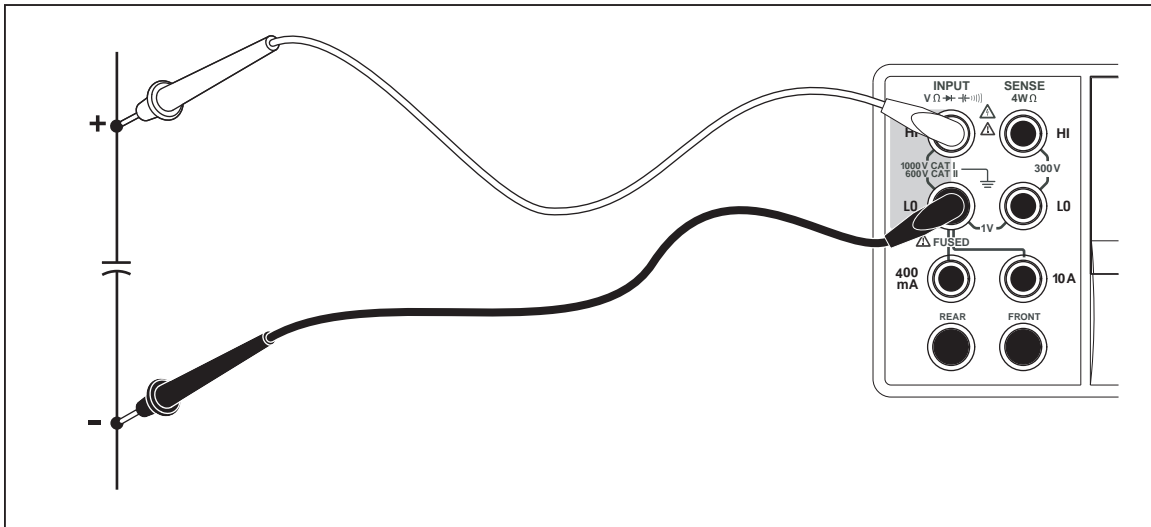

Figure 4-6. Measuring Capacitance
3. Connect the Meter's test leads as shown in Figure 4-6.